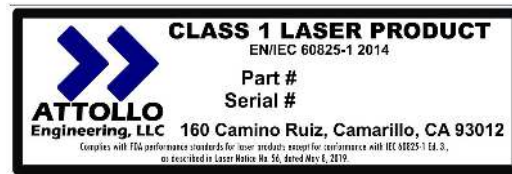
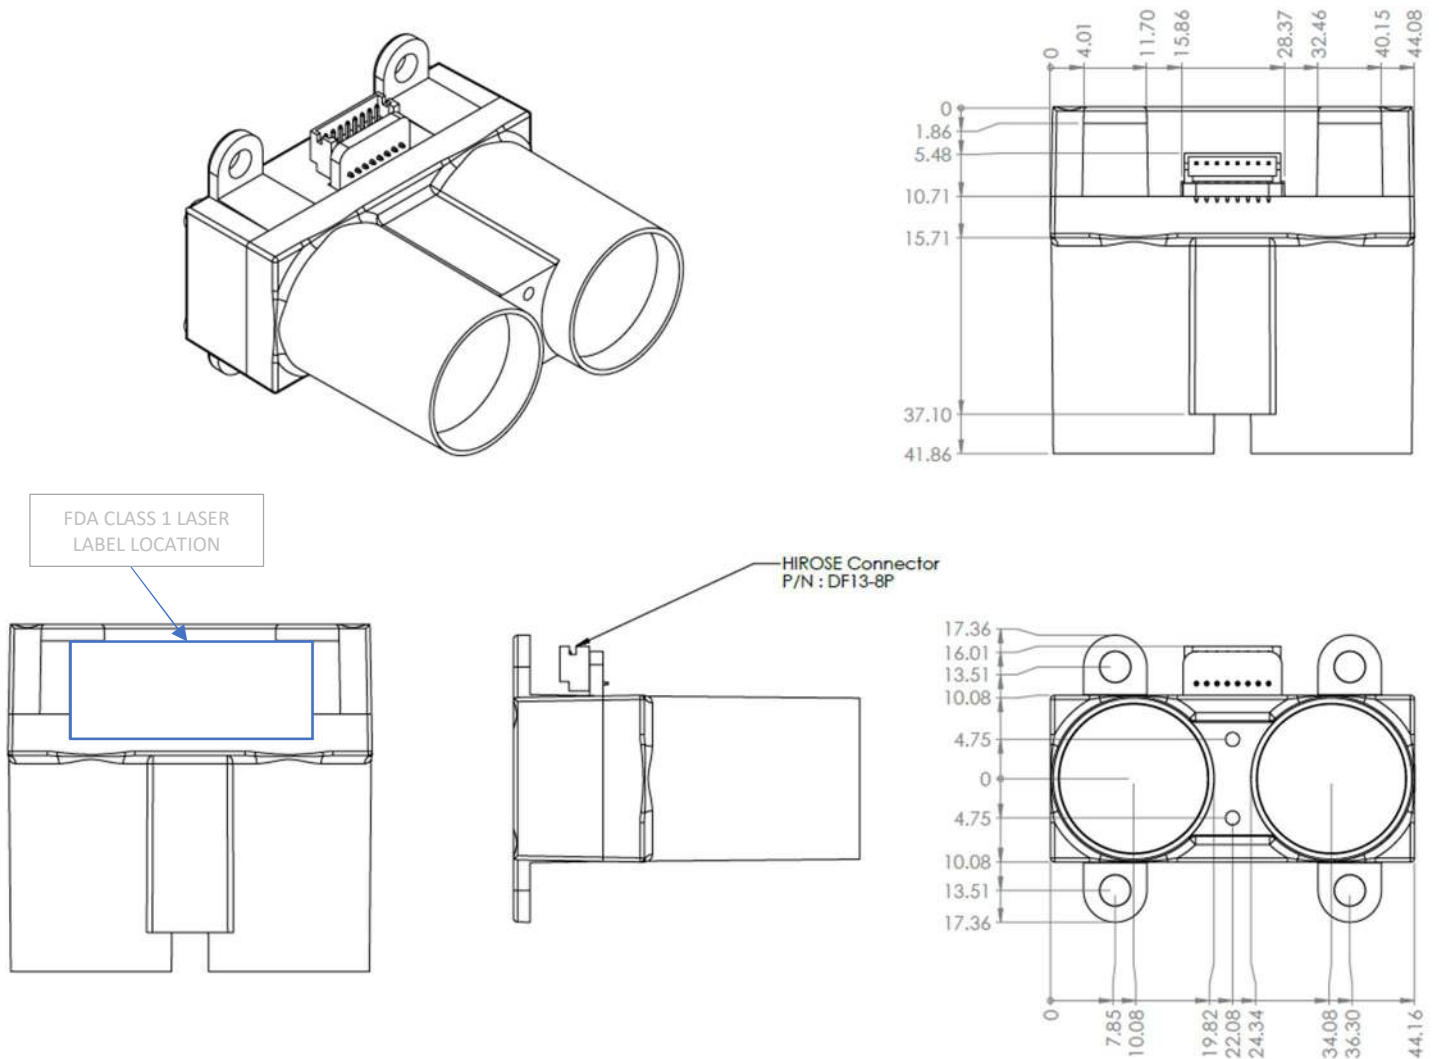

Figure 2 - U.S. FDA Class 1 Laser Label
Figure 3 - Exterior and Mounting of the WASP-200 LRF (CU1)
**NOTE:** This Laser Product is designated as Class 1 during all aspects of operation. The U.S. FDA Laser Classification Label is shown below in Figure 2. The placement of the labels is shown in Figure 3 and Figure 4.
The exterior dimensions and mounting details of the WASP-200 LRF are shown in Figure 3 for the commercial system and Figure 4 for the ruggedized system. All dimensions are in millimeters. Contact Attollo Engineering for a 3D solid model.